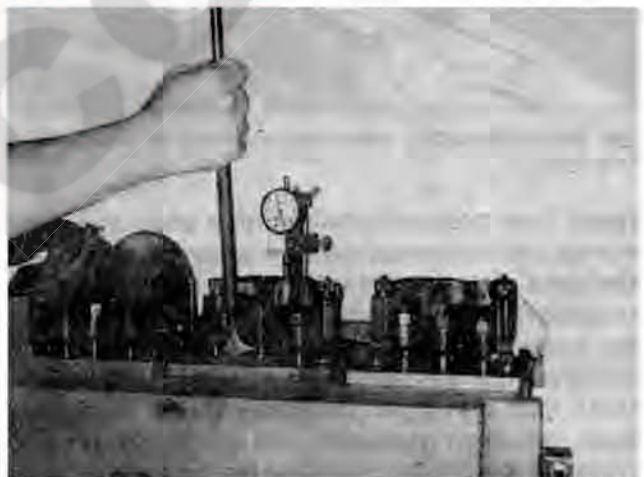

Fig. 2-27, (K114104). Actuating rocker lever
5. Using 3375009 Rocker Lever Actuator Assembly and (3375007) Support Plate, bottom the injector plunger, check the zero (0) setting. Fig. 2-27. Allow the plunger to rise slowly; the indicator must show the plunger travel to be within the range indicated in Table 2-5.